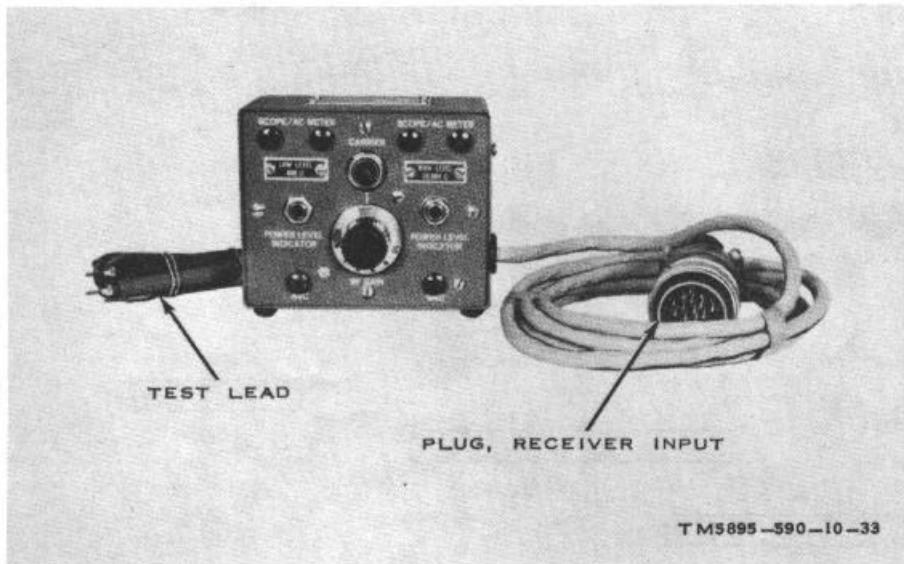

Figure 1-29. Test Set, Radio TS-2682/FSQ-75(V).
t. Test Set, Radio TS-2682/FSQ-75(V) (fig. 1-29). The receiver test set is used to test vhf receivers. The unit consists of components mounted in an aluminum cabinet. All controls are mounted on a front panel. An 8-foot cable provides connection to equipment under test.